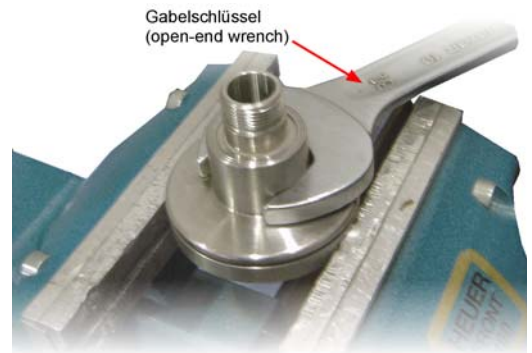

Fig. 4
- Screw off retaining clamp (9).
- Carefully pull out valve insert from valve housing (VG) without rotary movement.
- Screw off piston plate (1) while holding against at width across flats (SW2).
- Screw off piston (2) at width across flats (SW2) while holding against with round rod 8mm at drilling (B2).
- Insert construction group upper piston plate at spanner flat (SW4) in a bench vice with protection braces with little clearance. (Caution! Do not stretch in order that thrust collar (4) does not deform. See fig. 4/page 9).
- Loosen piston plate upper (5) at spanner flat (SW3) from thrust collar (4).
- Carefully put over diaphragm (D2) from piston plate upper (5).
- Pull off back-up ring (3) axially from piston (2).
- Remove diaphragm (D2) and back-up ring (3).
- Screw off piston plate upper (5) with spanner flat (SW3) while holding against with round rod 8mm at drilling (B).
- Put over and dismount diaphragm (D5) from lantern (8).
- Screw off locking piston (10).